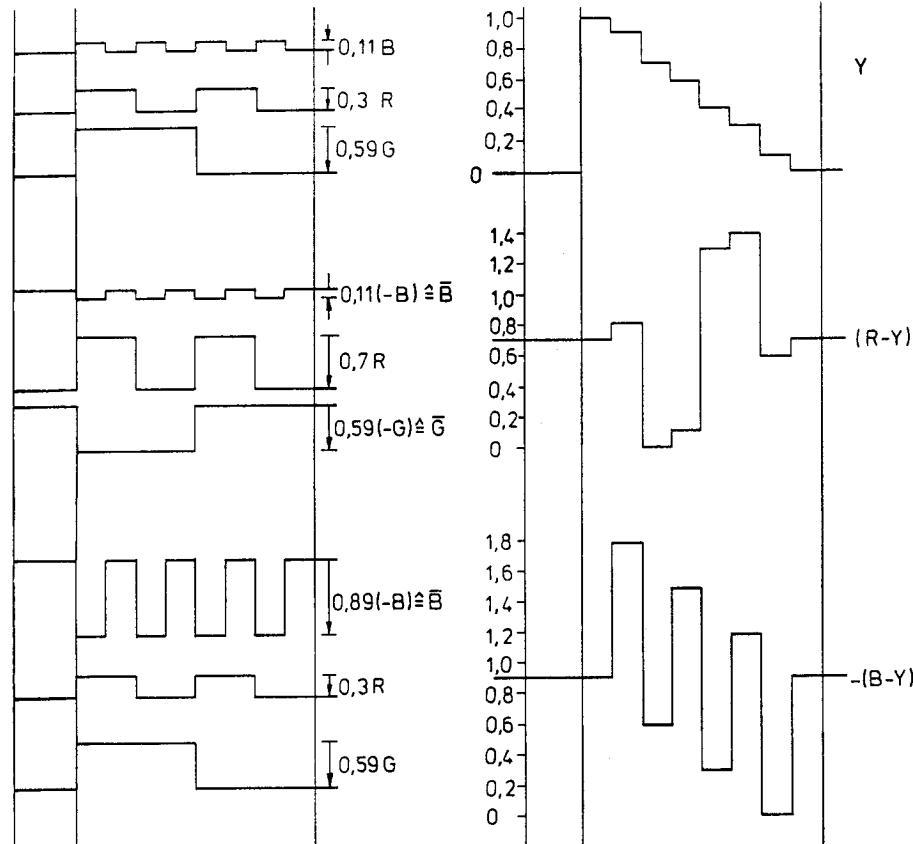

Fig. 17 Synthesis of the Y , $(R-Y)$ and $-(B-Y)$ signals out of the RGB components
2.2.7.3. RGB signals, fig. 17
Fig. 17 shows these signals $(R-Y)$ and $-(B-Y)$ which are modulating the colour subcarrier.